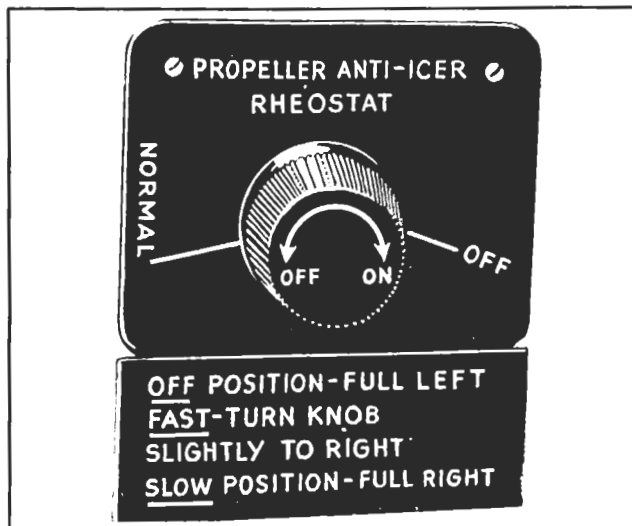

Figure 42—Propeller Anti-Icer Rheostat
(14) Check to see that propeller anti-icer rheostat is turned "OFF." (See figure 42.)
(17) Check the emergency air brake bleeder valve, located above the doorway directly back of the pilot and copilot and ascertain that this valve is closed.